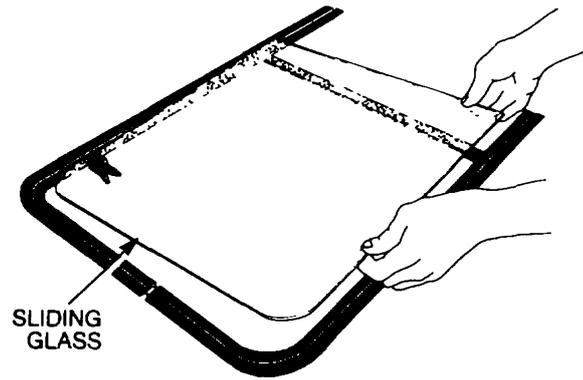

Figure 227 Sliding Glass Removal
- f. Carefully pull the frame halves apart sufficiently to allow the glass to be removed (Figure 227).